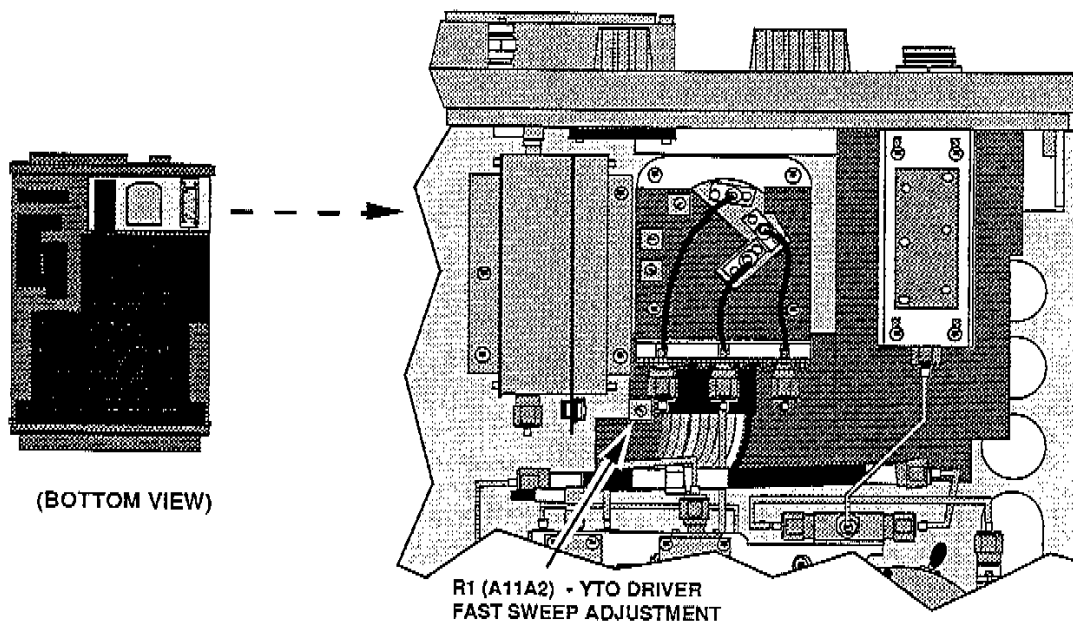

Figure 3-32. Location of YTO Driver Fast Sweep adjustment.
6. Set R1 to mid-range (see Figure 3-32).